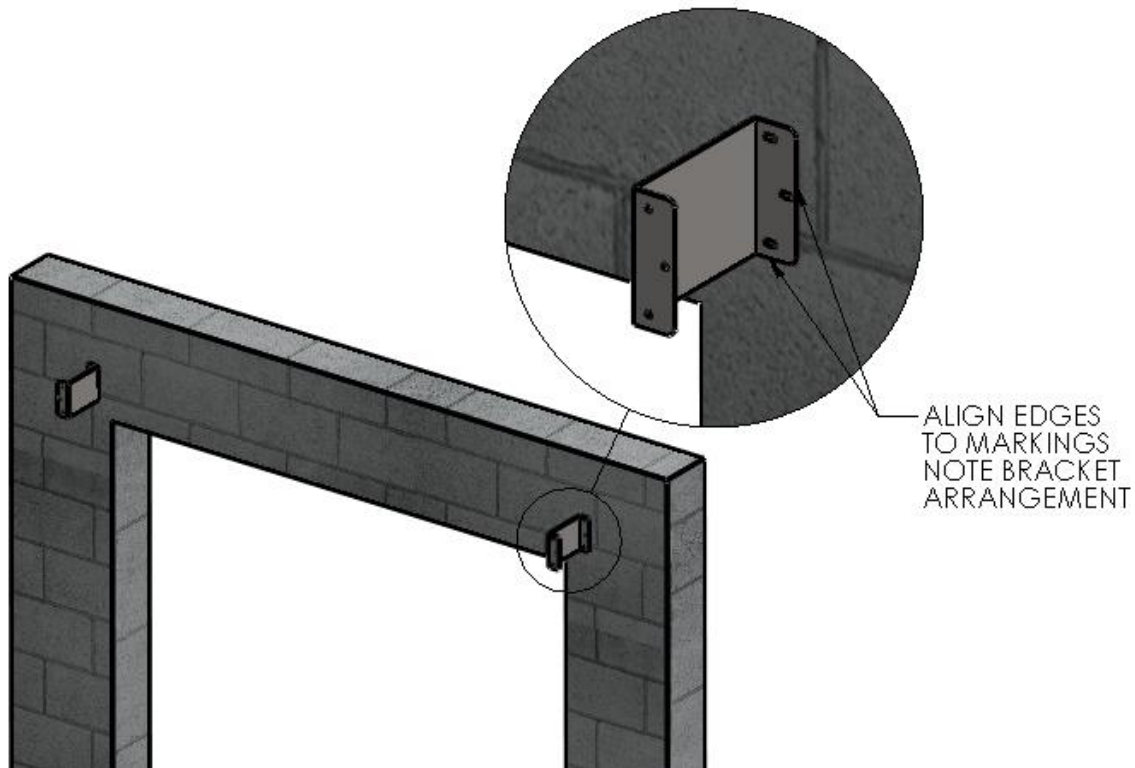

Figure 3 LOCATE/INSTALL HEADER OFFSET MOUNTING BRACKET
1. Using the wall end of one of the Header Projection Mount Brackets, trace the insides of its mounting slots onto the wall mount surface. (Figure 2 MEASURE BRACKETS) Be sure that its flange is facing outward, that its bottom edge is on the height line, and that the flange edge is on your vertical overall width line. (Figure 3 LOCATE/INSTALL HEADER OFFSET MOUNTING BRACKET)
2. Predrill through the centers of the traced locations for the mounting hardware, three (3) pilot holes on each side. Using adequate mounting screws or bolts (depending on your building/surface material) attach the header offset brackets to each side of the opening. (Figure 3 LOCATE/INSTALL HEADER OFFSET MOUNTING BRACKET)